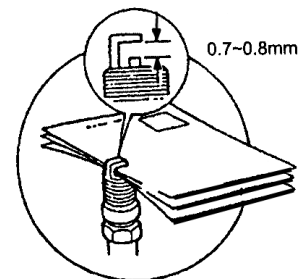

Figure 14
- 3) Measure the electrodes clearance. See Fig.14. The spark plug electrode clearance should be between 0.7-0.8mm. If the clearance exceeds 0.8mm, replace the spark plug.